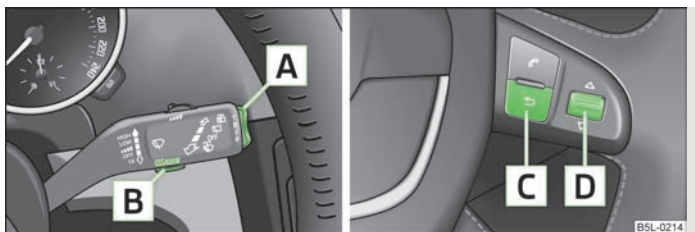

Fig. 7 Information display: Control elements on the windshield wiper lever/
- > You can activate the **Main menu** by pressing the rocker switch **A** » Fig. 7 for more than 1 second.
- > You can activate the **Main menu** by pressing the rocker switch **C** » Fig. 7 for more than 1 second.